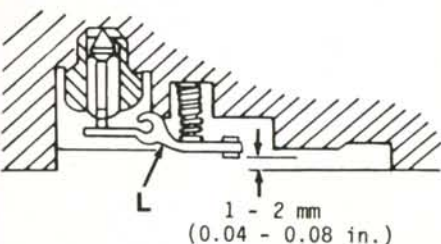

Fig. JS3-5—Inlet needle valve lever (L) should be 1-2 mm (0.04-0.08 in.) below surface of carburetor housing when needle valve is seated.
Fig. JS3-3—View identifies location of low speed mixture needle (L) and high speed mixture needle (H). Remove four corner screws (S) and withdraw cover (C) to service regulating diaphragm or check inlet needle valve lever (L—Fig. JS3-5) setting.
Inlet needle valve lever (L—Fig. JS3-5) should be 1-2 mm (0.04-0.08 in.) below surface of carburetor housing when needle valve is seated as shown in Fig. JS3-5. If lever must be adjusted, push down on lever immediately above spring to collapse the spring, then bend the end which contacts needle valve.